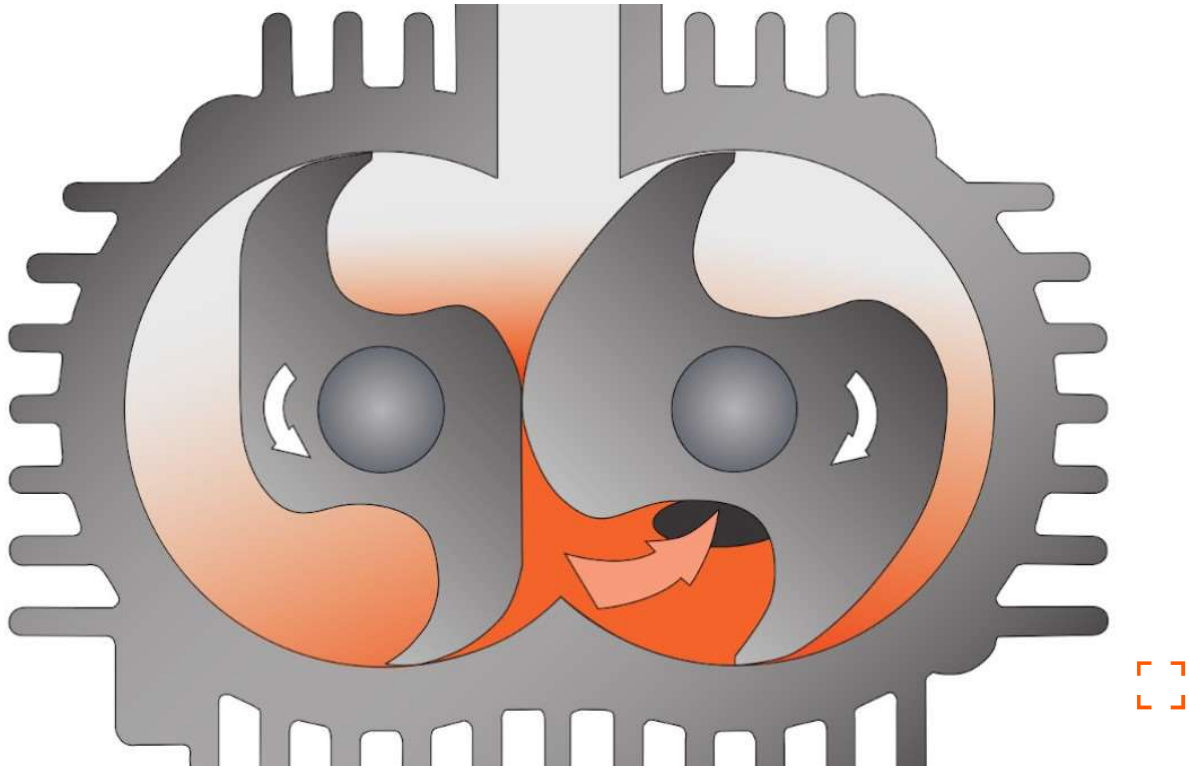

Fig. 4: Operating principle of a claw vacuum pump. Source: Busch Vacuum Solutions.
**Dry screw vacuum pumps** were originally developed for applications, for example in the semiconductor industry, that require low ultimate pressures as well as a operating fluid-free compression. They have the advantage of lower servicing costs and the option of speed control (frequency control). Due to minimal clearance and the lack of a protective oil film, screw vacuum pumps are less robust in terms of product or liquid entry. This is why screw vacuum pumps are only occasionally used for vacuum packaging. There are also screw vacuum pumps whose screw profile is based on the simple design of a compressor. They are not optimized for generating vacuum and do not reach the ultimate pressure required for packaging. This disadvantage can be compensated for by integrated oil circulation lubrication and operation at very high speeds. In this case, however, the major advantages of a screw vacuum pump – minimal servicing and oil-free compression – no longer apply. Operation at high speed can also have a negative impact on the pump life. Similarly to the screw vacuum pump, the **claw vacuum pump** (Fig. 4) is dry and does not require any operating fluids. However, in the relevant sizes, it only achieves an ultimate pressure of 100 to 150 mbar. This means that it is not suitable for the